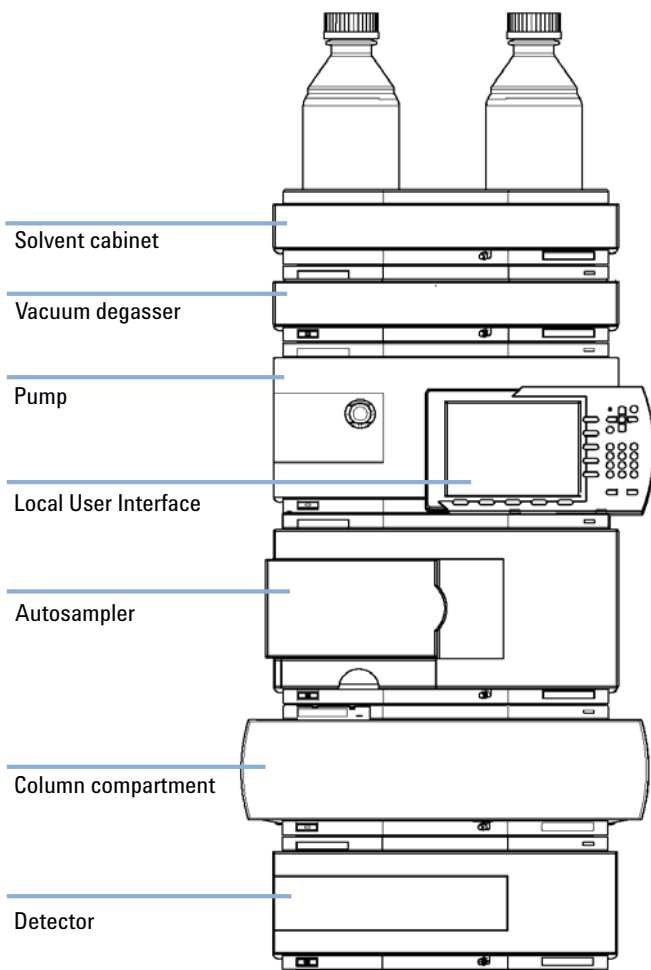
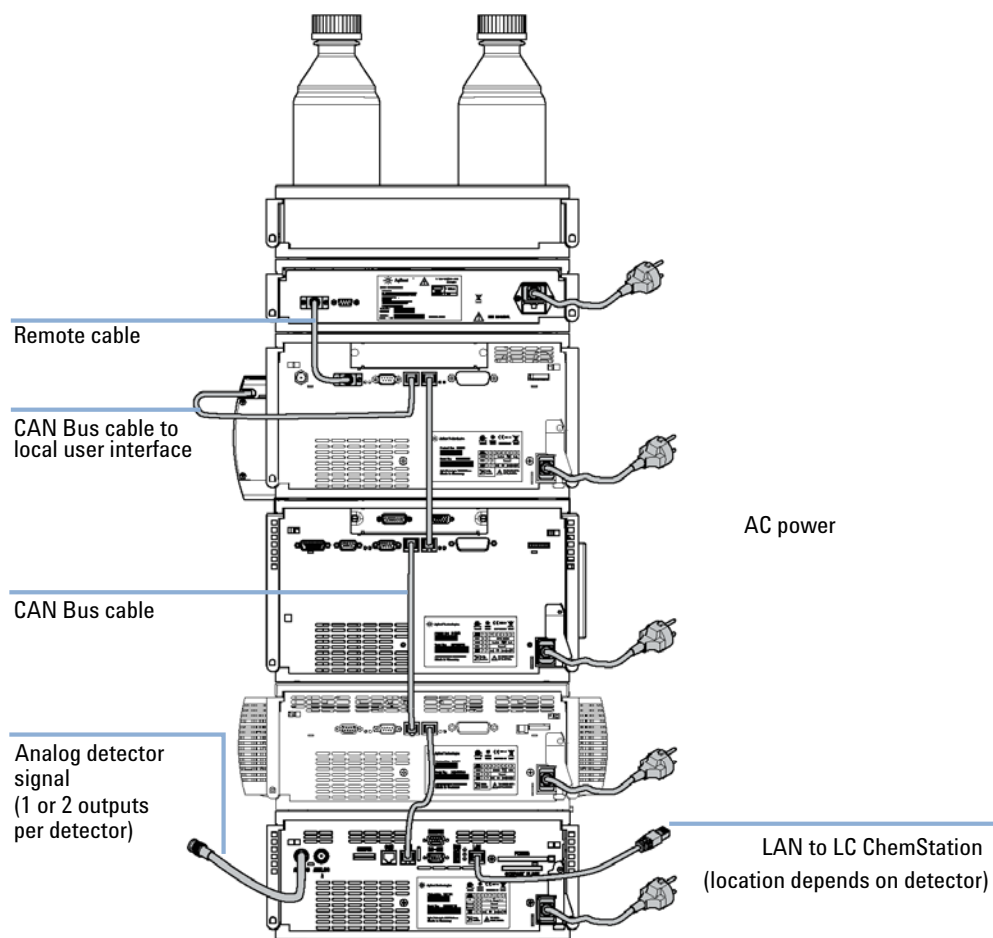

Figure 7 Recommended Stack Configuration for 1260 (Front View)
Figure 8 Recommended Stack Configuration for 1260 (Rear View)
Ensure optimum performance by installing the modules of the Agilent 1260 Infinity LC System in the following configuration (See Figure 7 on page 45 and Figure 8 on page 46). This configuration optimizes the flow path for minimum delay volume and minimizes the bench space required.
- 1 Place the individual modules in a stack configuration as shown in Figure 7 on page 45.
- 4 Connect the CAN cable to the CAN connector of the next module, see Figure 8 on page 46.
- 1 Place the vacuum degasser in the stack of modules as shown in Figure 7 on page 45.
- 4 Connect the APG cable to the APG remote connector of the pump, see Figure 8 on page 46.